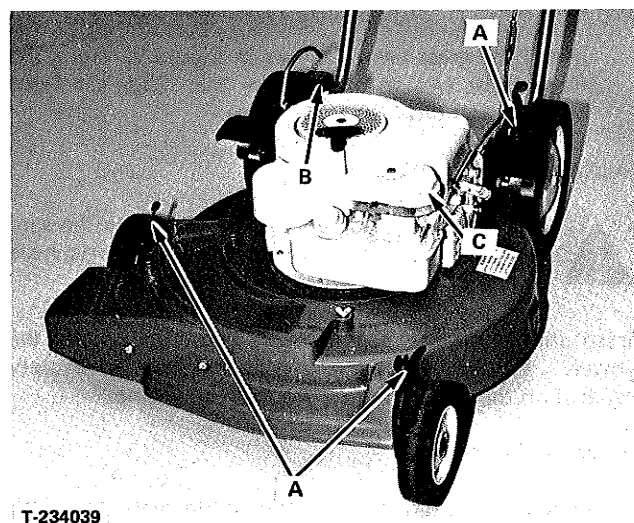

FIGURE 8 - LUBRICATE HEIGHT ADJUSTERS
1. Place the mower on a level surface. Clean the area around the dipstick (B, Figure 8).
Every 25 hours and at the end of the mowing season, apply a few drops of oil as shown in Figures 8, 9 and 10.